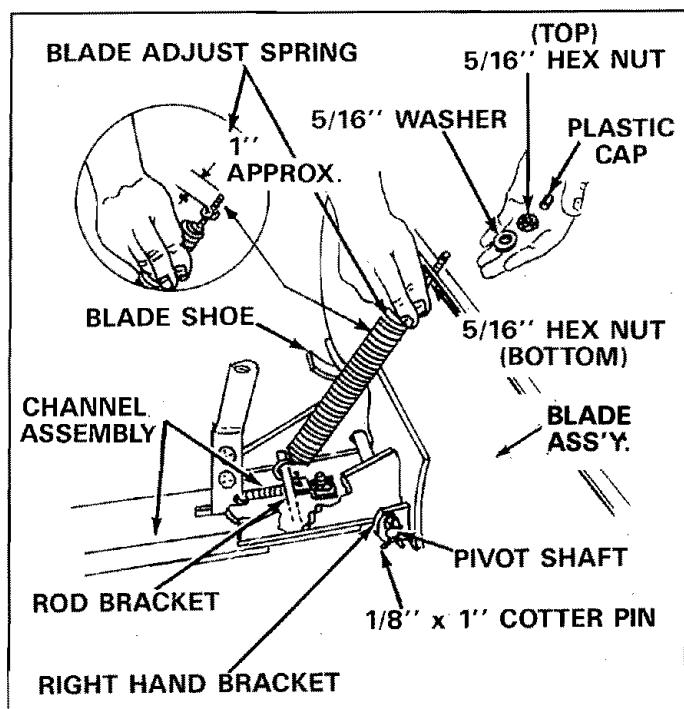

FIGURE 10
7. Assemble blade assembly to channel assembly by sliding one end of pivot bar into right hand bracket and then sliding back into left hand bracket. See figure 10. Secure by assembling two 1/8" x 1" cotter pins into small holes near ends of pivot bar. Spread ends to retain.
5/16" hex nut removed earlier. Do not tighten 5/16" hex nut at this time. Push down on the spring and hook end of spring over rod bracket as shown in figure 10. Tighten 5/16" hex nut on top edge of blade down against the bottom 5/16" hex nut. Replace plastic cap over end of adjusting bolt threads. See figure 10.